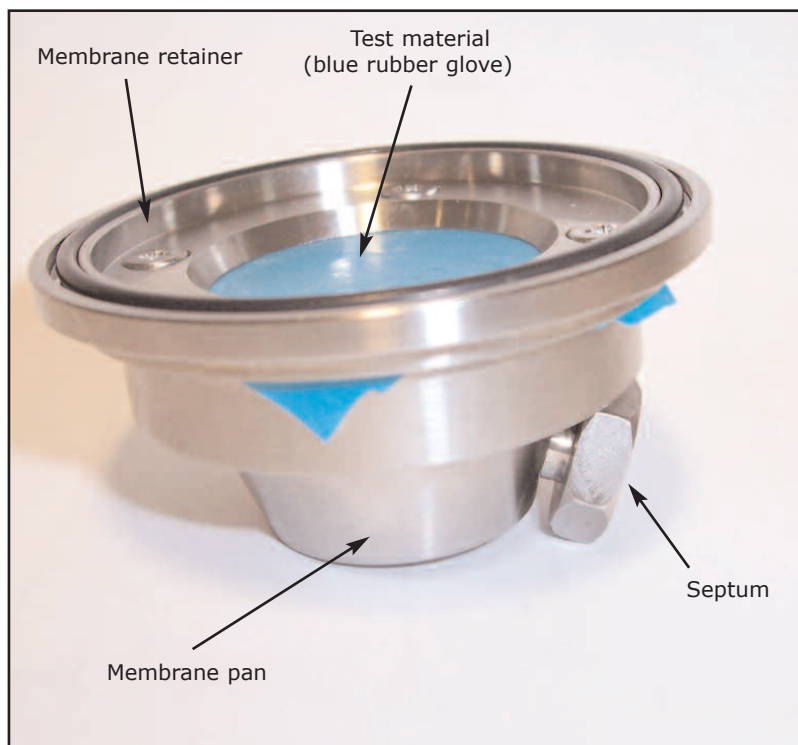

Figure 1. The Permeation Accessory for the Micro-Chamber/Thermal Extractor depicting the key components and a typical test material
Permeability is tested, typically at ambient or near-ambient temperatures, using a permeation accessory (see Figures 1–3) for both models of Markes' Micro-Chamber/Thermal Extractor (M-CTE120I(T) and M-CTE250I(T)). The permeation accessory consists of a membrane pan, membrane retainer and a septum.